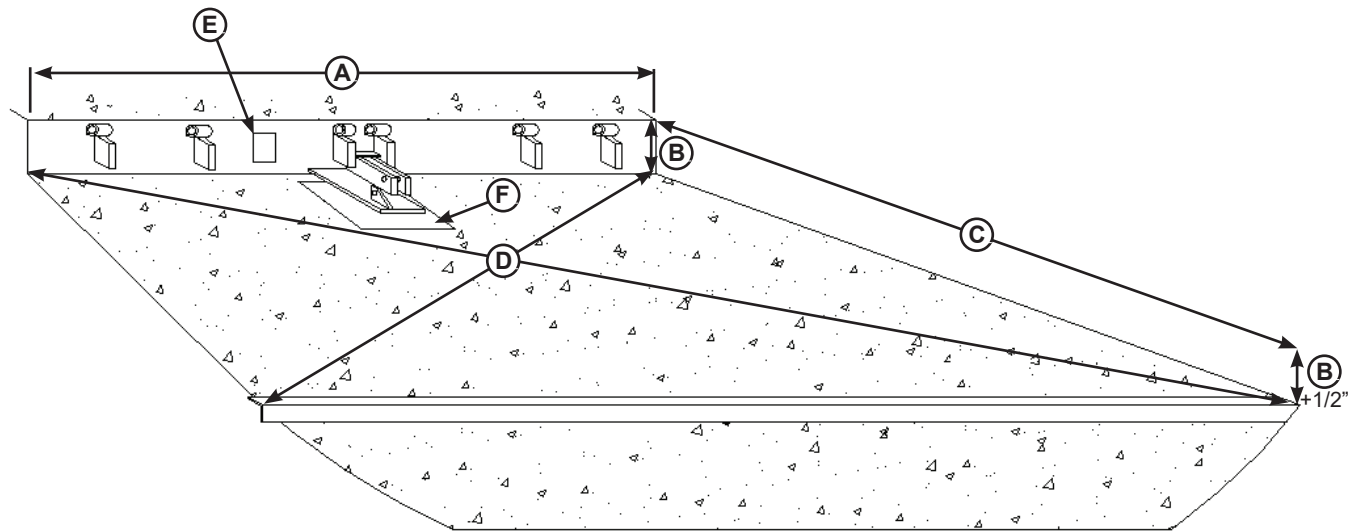

Figure 5
2. Check the entire dock leveler pit for proper construction according to approved/certified pit drawings. Make sure pit is square, has the proper depth and taper by making the following measurements, see **Figure 5**: